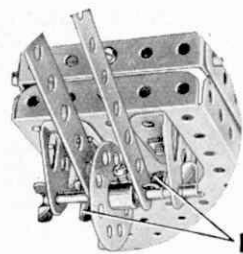

Fig. O.4a
The  $5\frac{1}{2}$ " Strips forming the handle are placed one on each side of a Bush Wheel on the front axle, and they are held in place by Spring Clips (1) as shown in Fig. O.4a.